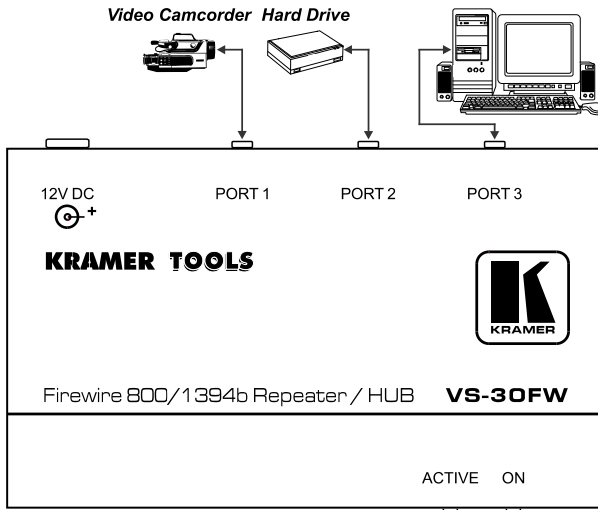

Figure 2: Connecting the VS-30FW FireWire 800/1394b Repeater / HUB
To use the **VS-30FW FireWire 800/1394b Repeater / HUB**, as the example in Figure 2 illustrates, do the following:
2. Connect the 12V DC power adapter (see section 5.1) to the power socket and connect the adapter to the mains electricity (not shown in Figure 2). The ON red LED lights.